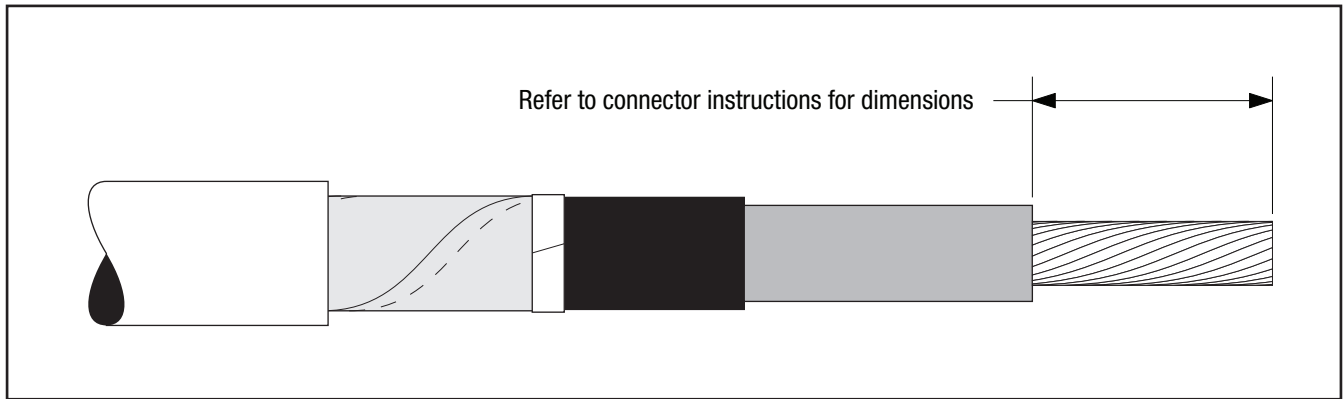

Figure 4
- 3.1** If using a 3M Shearbolt Connector QCI 2-250, refer to the instructions included with the connector for insulation cut-back dimension. Insulation removal length shall not exceed 2" (51 mm) from conductor end (Figure 4).